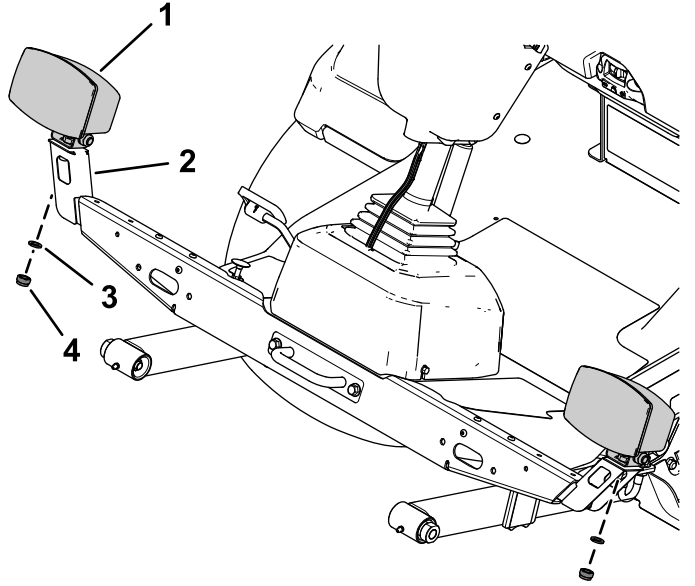

Figure 20
- Secure the left light assembly and right light assembly to the left light mount and right light mount using the lock washer and hex nut on the light assemblies (Figure 20).